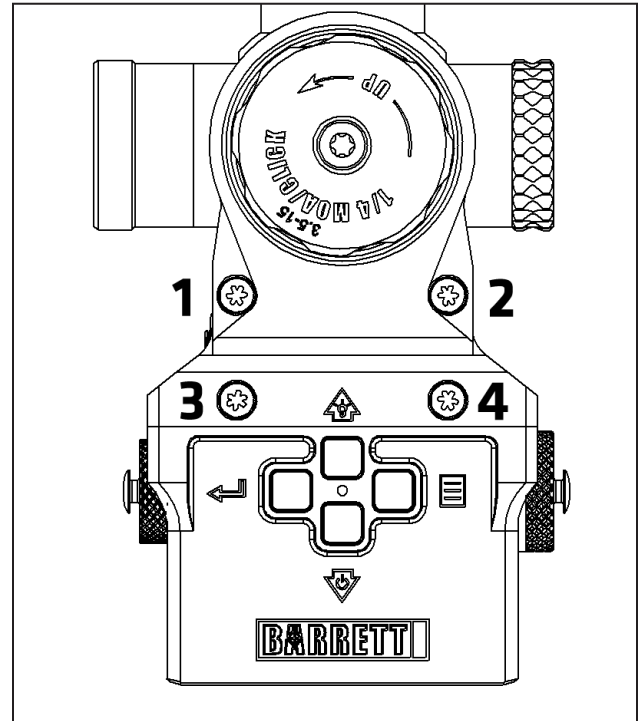

Figure 8.
8. Ensuring the elevation knob rotates freely, evenly tighten Mount Screws (T-25 Torx®) # 1 and # 2. Figure 2-8. There should be a gap between BORS and the scope ring bases. Figure 8.